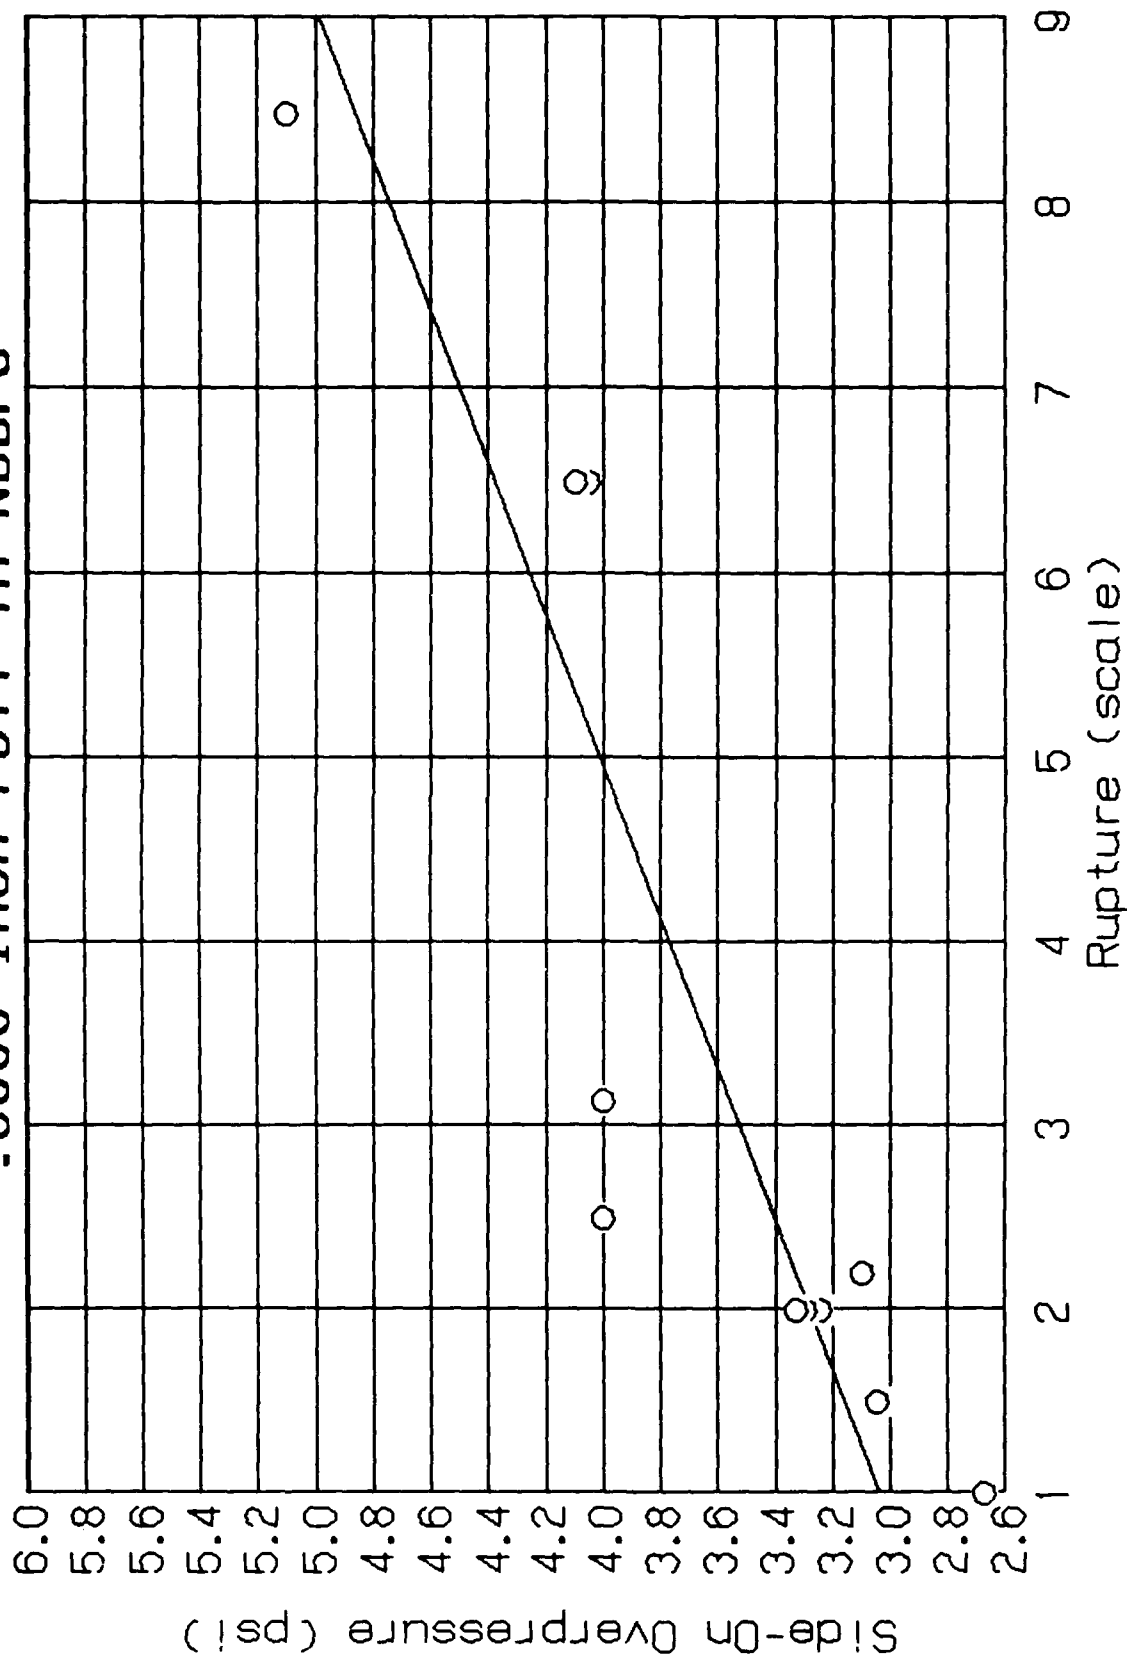

Figure 5.(U) CORRELATION CURVE B-2
- Figure 5. Correlation curve "B2": Side-on overpressure (PSI) correlated with rupture only (scale), using .0005-in. foil 9
2.11.3 Calibration Curve "B2." Choose calibration curve "B2" to determine side-on overpressure with .0005-in. foil when rupture occurs. This curve correlates side-on overpressure with rupture for .0005-in. foil, the plane of the foil oriented normal to the direction of propagation of the initial shock (Figure 5).